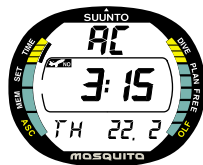

Fig. 2.3. Active water contact is indicated by the text AC.
**NOTE:** Water or moisture build-up around the water contacts may cause the contact to activate automatically. This can happen, e.g., when washing your hands or sweating. If the water contact activates in the Time Mode, an AC text will appear on display (Fig. 2.3.), and it will be shown until the water contact deactivates, or the Mosquito enters the Dive Mode automatically. To save the battery power, you should deactivate the water contact by cleaning it and/or drying it with a soft towel.